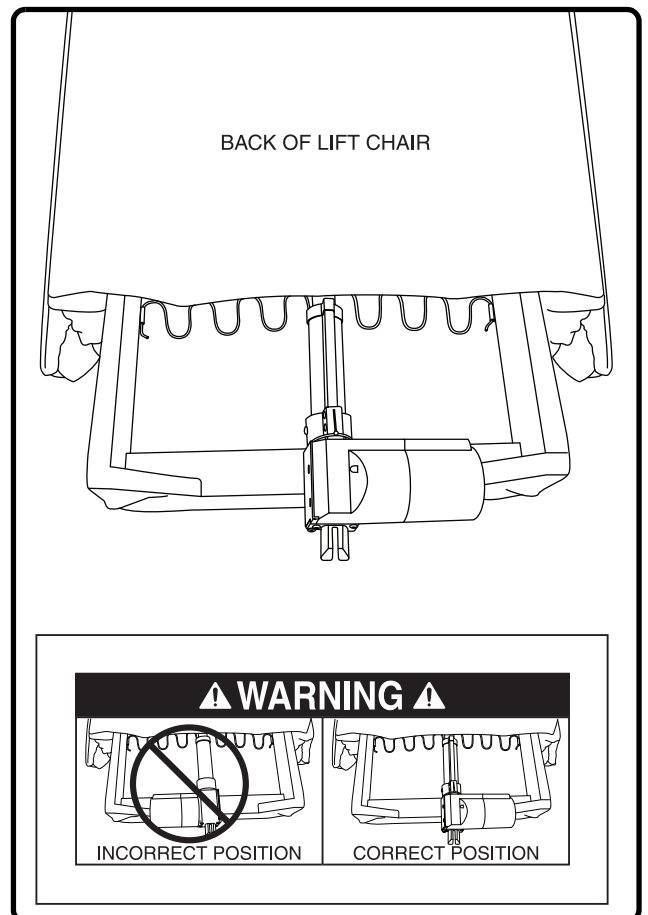

Figure 2. Correct Actuator Positioning
**WARNING!** Make sure that the actuator is turned towards the right (if facing the back of the lift chair) to avoid possible damage to any lift chair components. See figure 2.